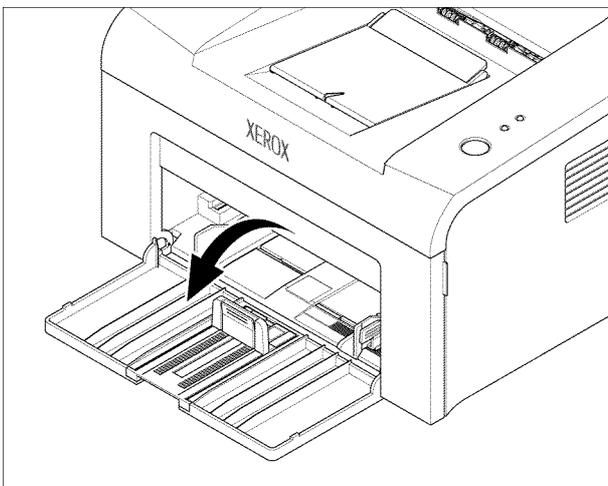

Figure 1
1. Open the cassette tray, Figure 1.